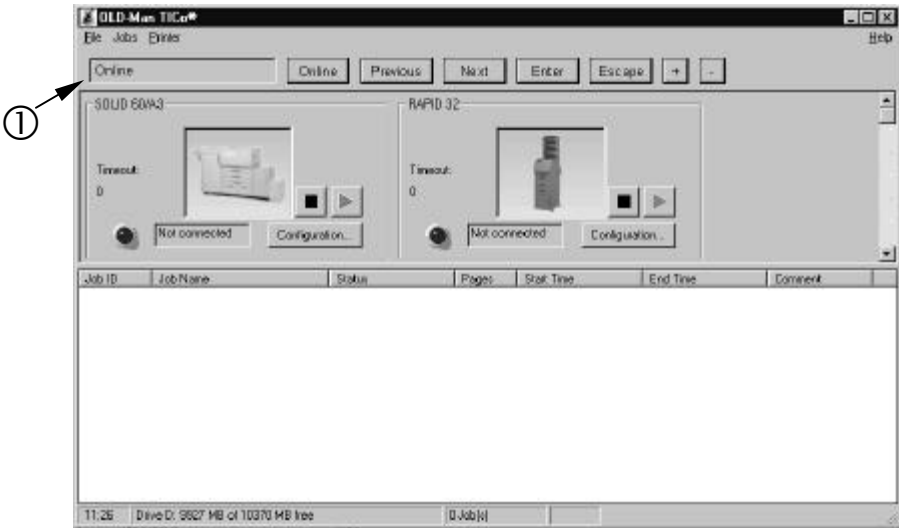

Fig. 4.6.a Main menu of OLD - Man TICo®
The settings at the control panel (see fig. 4.6.a) are relevant with that for all connected printers.
At the control panel of the virtual printer (see ① in fig. 4.6.a) you can optimize the print parameter settings corresponding to your defaults.